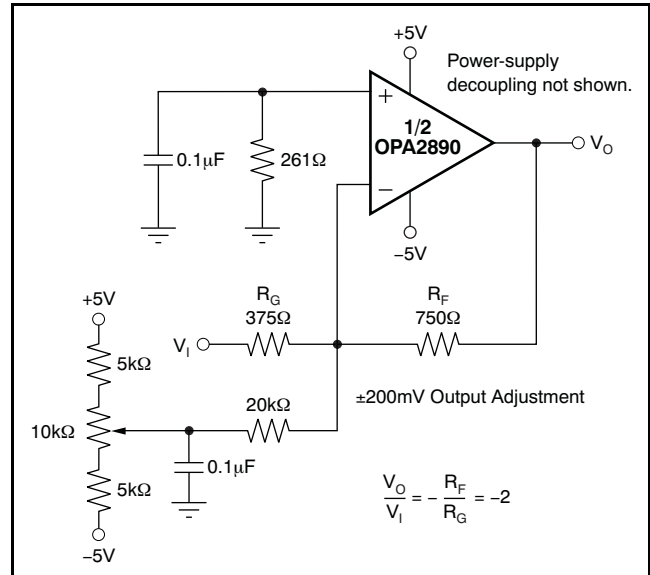

Figure 61. DC-Coupled, Inverting Gain of –2, with Offset Adjustment
A fine-scale output offset null, or dc operating point adjustment, is often required. Numerous techniques are available for introducing dc offset control into an op amp circuit. Most of these techniques eventually reduce to adding a dc current through the feedback resistor. In selecting an offset trim method, one key consideration is the impact on the desired signal path frequency response. If the signal path is intended to be noninverting, the offset control is best applied as an inverting summing signal to avoid interaction with the signal source. If the signal path is intended to be inverting, applying the offset control to the noninverting input may be considered. However, the dc offset voltage on the summing junction sets up a dc current back into the source that must be considered. Applying an offset adjustment to the inverting op amp input can change the noise gain and frequency response flatness. For a DC-coupled inverting amplifier, Figure 61 shows one example of an offset adjustment technique that has minimal impact on the signal frequency response. In this case, the dc offsetting current is brought into the inverting input node through resistor values that are much larger than the signal path resistors. This configuration ensures that the adjustment circuit has minimal effect on the loop gain and thus, the frequency response.
d) Connections to other wideband devices on the board may be made with short, direct traces or through onboard transmission lines. For short connections, consider the trace and the input to the next device as a lumped capacitive load. Relatively wide traces (50mils to 100mils , or 1.27mm to 2.54mm) should be used, preferably with ground and power planes opened up around them. Estimate the total capacitive load and set R_S from the plots of Figure 15 and Figure 36. Low parasitic capacitive loads ($< 3\text{pF}$) may not need an R_S because the OPA2890 is nominally compensated to operate with a 2pF parasitic load. Higher parasitic capacitive loads without an R_S are allowed as the signal gain increases (increasing the unloaded phase margin; see Figure 61). If a long trace is required, and the 6dB signal loss intrinsic to a doubly-terminated transmission line is acceptable, implement a matched impedance transmission line using microstrip or stripline techniques (consult an ECL design handbook for microstrip and stripline layout techniques). A 50Ω environment is normally not necessary on board, and in fact, a higher impedance environment improves distortion as shown in the distortion versus load plots. With a characteristic board trace impedance defined (based on board material and trace dimensions), a matching series resistor into the trace from the output of the OPA2890 is used as well as a terminating shunt resistor at the input of the destination device. Remember also that the terminating impedance is the parallel combination of the shunt resistor and the input impedance of the destination device; this total effective impedance should be set to match the trace impedance.